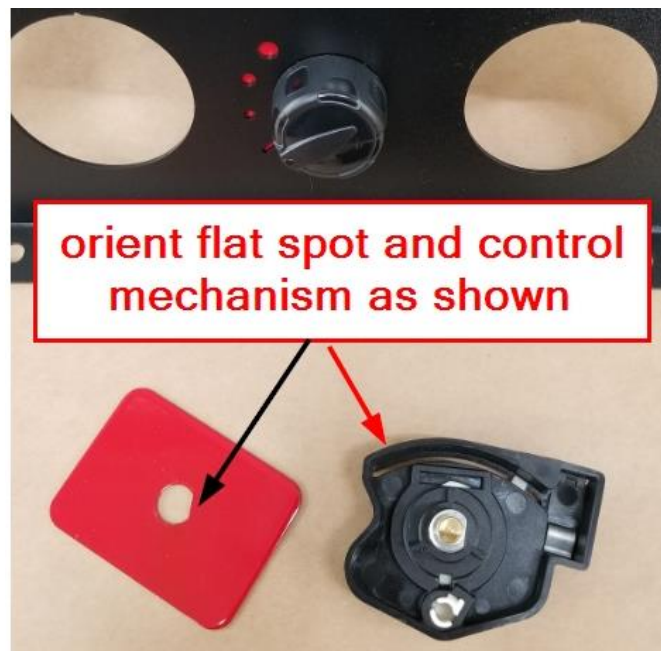

Figure 14
- l. With the Heat Control Mechanism attached to the cable, route the mechanism between the 2" duct hose as shown in Figure 19. Refer to Figure 14 to orient the Heat Control Mechanism and the Flat Spot on the red metal plate. Note: There is no need to use a 7/16" Flat washer on this assembly. Secure using the remaining low profile hex nut.